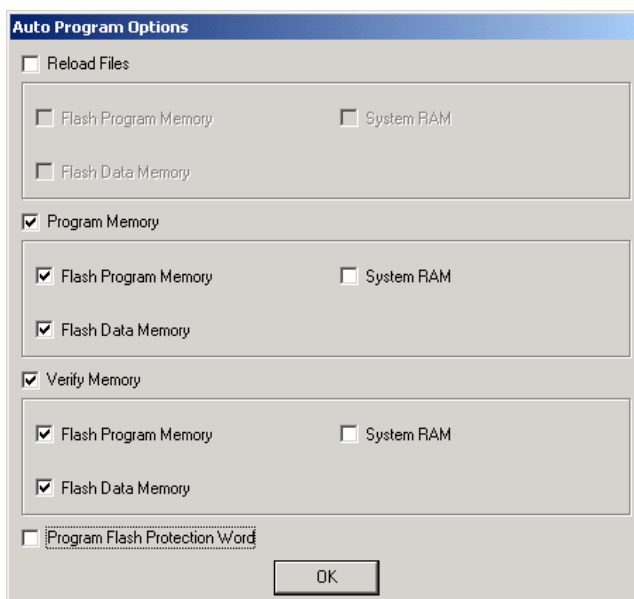

Figure 6-20. Auto Program Settings used in this Example
3. **Select Auto Program Options.** In this example, there is no need to reload the Intel Hex files each time a device is programmed, so this option is left disabled. However, we do want to program and verify both the Flash Program Memory and the Flash Data Memory memories, so these options must be checked. We do not want to modify the contents of the System RAM or Information Block 1, so these options remain unchecked. The final settings for the Auto Program Options dialog box are shown in Figure 6-20. Click the OK button to proceed.